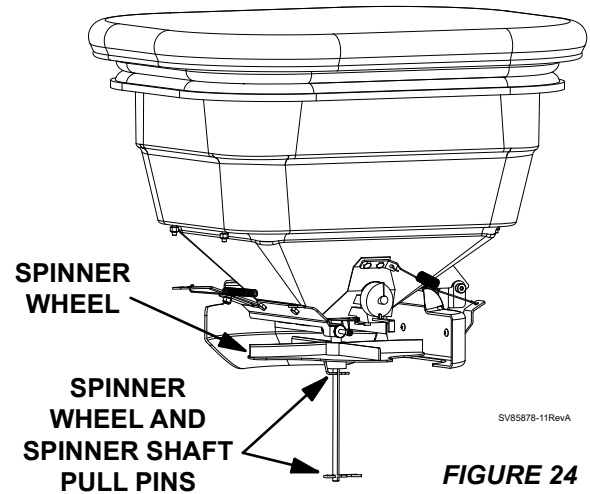

FIGURE 24
**REMOVAL OF THE SPINNER WHEEL (See Figure 24)** - The spinner wheel can be removed to aid in inspection and cleaning. First remove two spinner wheel pull pins. One from under the spinner and one on the bottom of the spinner shaft. Then pull the spinner shaft up and through the bottom of the fertilizer hopper. To replace the spinner shaft and spinner just do the reverse and replace the front cover.